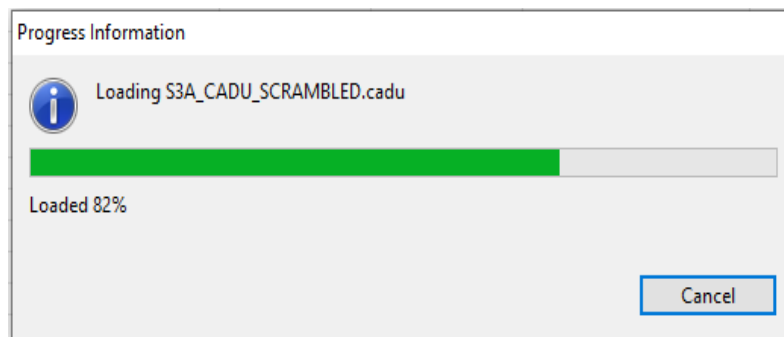
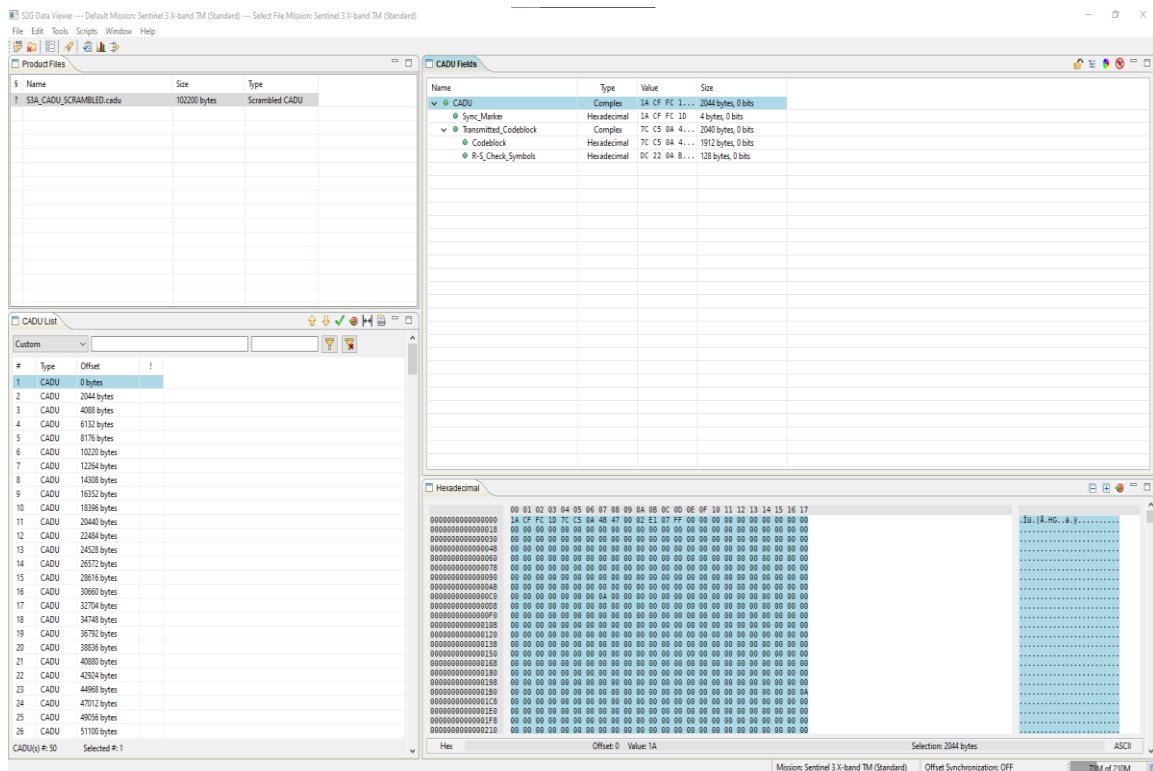

Figure 33: Progress bar when loading file
Figure 34: S2G Main Window displaying file contents
3. Select the file to open, and finish with OK. After this step, a progress dialog is shown while loading the file (Figure 33), and the file will appear listed in the Product Files view (Figure 34).